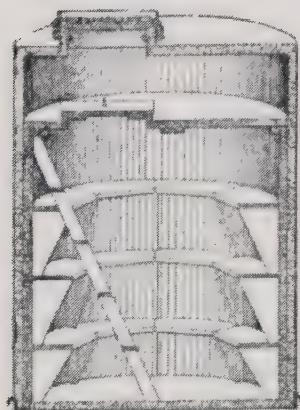

Fig. 125. Top and Inside
*Answer.* In wells like Fig. 125 when there are many. These wells are of sheet steel and concrete, and are about 10 feet high. They are heated when necessary by small oil stoves or by being packed over the top with manure.